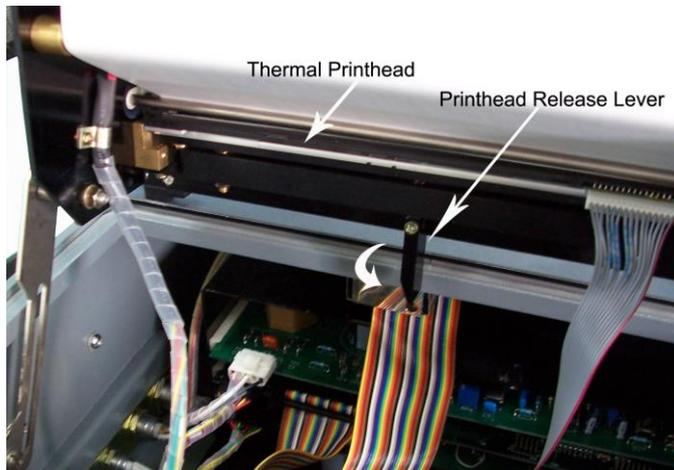

Fig. 3-6 Thermal Printhead & Release Lever
- D. Locate the printhead release lever (Fig. 3-6) located below the printhead. Withershins push the lever in order to raise the printhead away from the paper and roller.